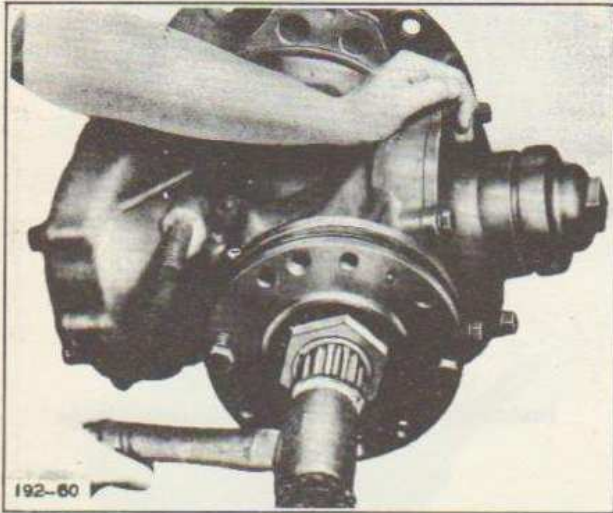

Fig. 57—Placing 2nd Reduction Pinion Gear Sub-assembly in Housing
hammer, see Figure 57. Use long  $\frac{3}{8}$ "-16 cap-screws to guide retainer and shims; insert and tighten two countersunk screws (28).